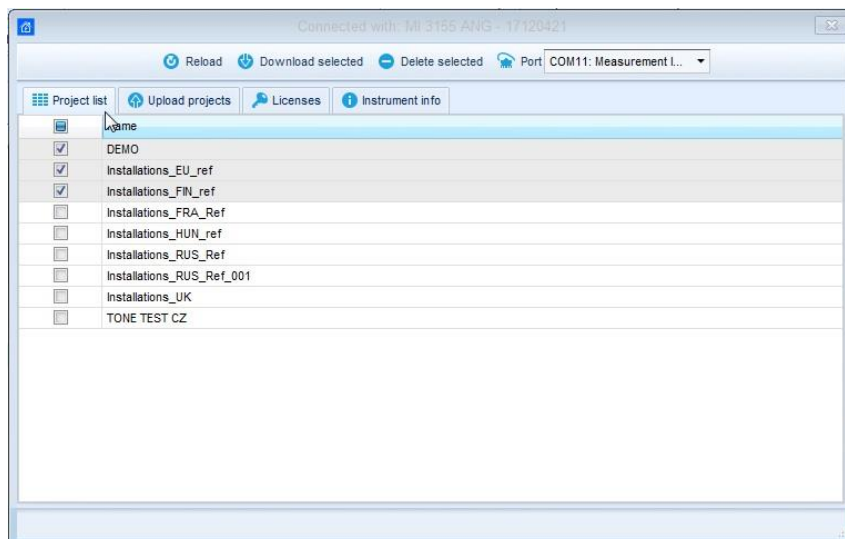

Figure 8.4: Connect window menu
- **Connect:** Opens menu window (**Figure 8.4**) for managing transfer of group of Data Structure files between connected instrument and PC.